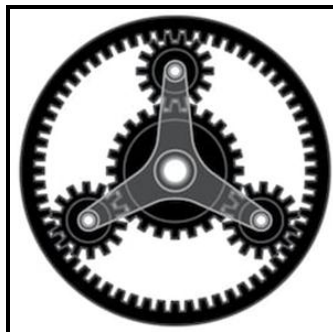

FIGURE 4.12
4.12 Which gear system is shown in FIGURE 4.12?